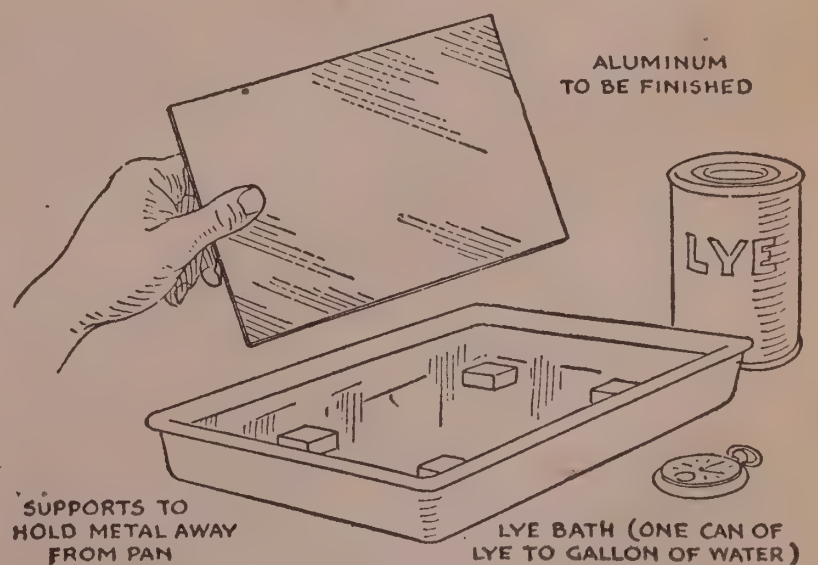

FIG. 16
**Finishing Aluminum Panels:** A satiny finish can be given aluminum panels, and for that matter any aluminum parts, by soaking them in a bath of ordinary lye (see Fig. 16). All that is required is a solution consisting of a full can of household lye dissolved in a gallon of water. Smaller quantities, of course, can be made by mixing the bath in smaller amounts of the same proportions.